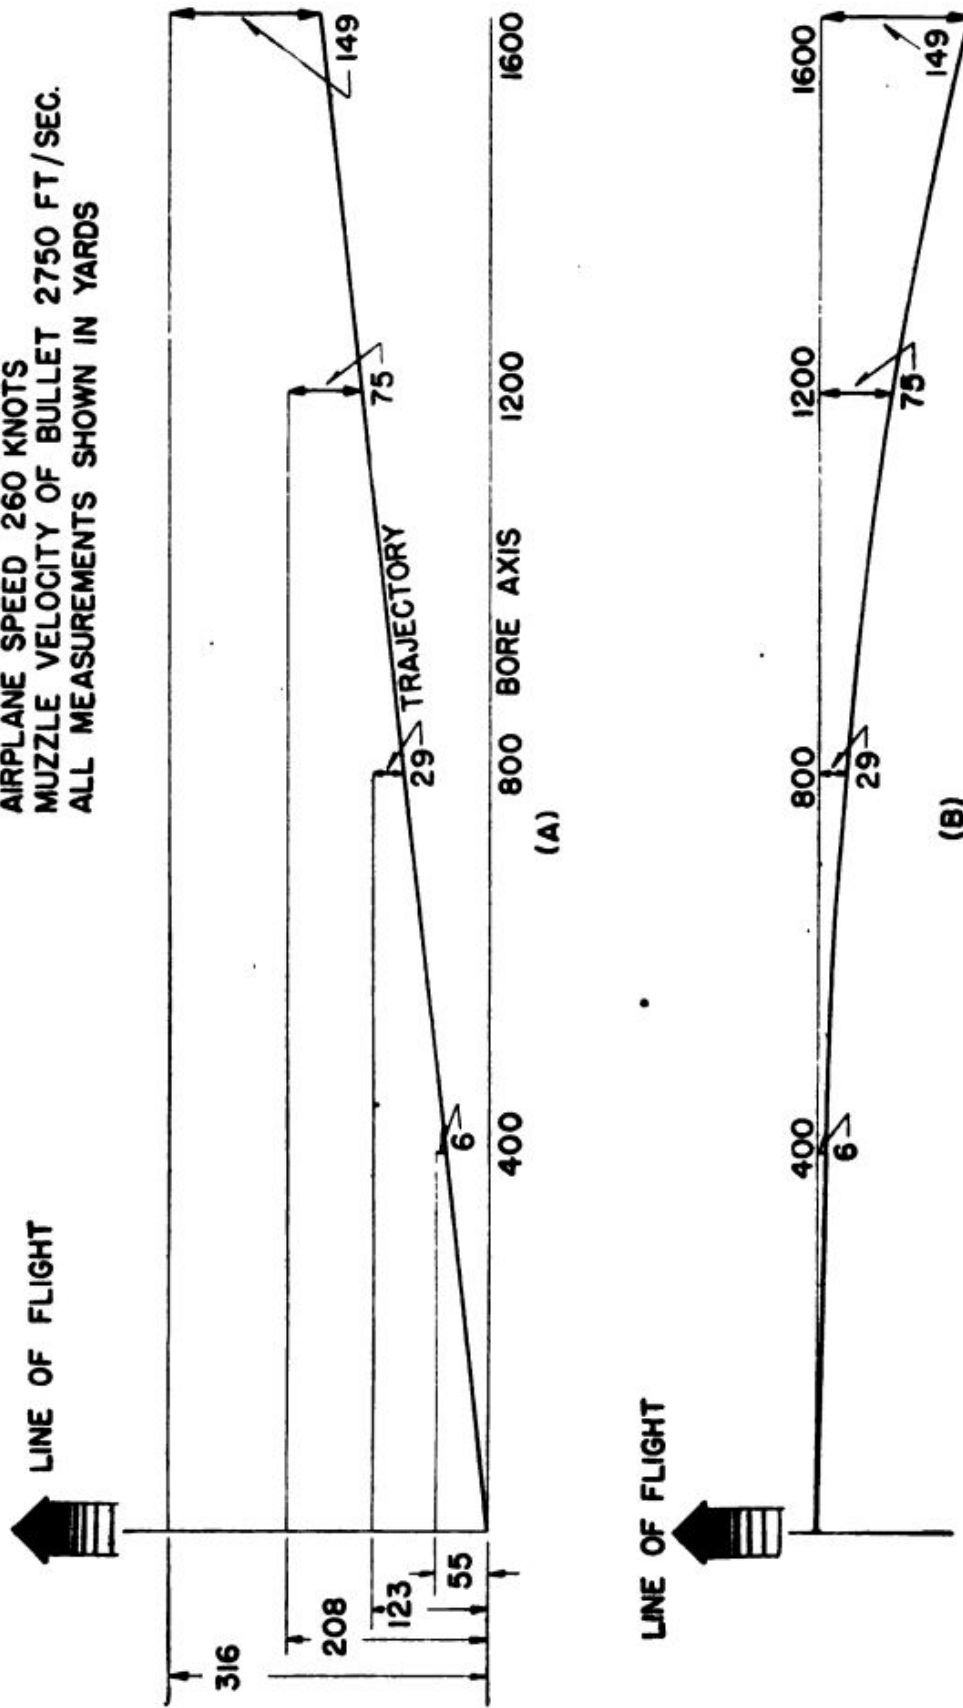

Figure 6.—Deflection and trail.
Now suppose you were flying along in another airplane directly ABOVE the airplane from which the bullet was fired. As you watched the bullet fired out of the airplane below you and you followed its trajectory with your eye, it would appear to follow a CURVED path, as in figure 6 (B) as you moved on beyond the point from which the bullet was fired.